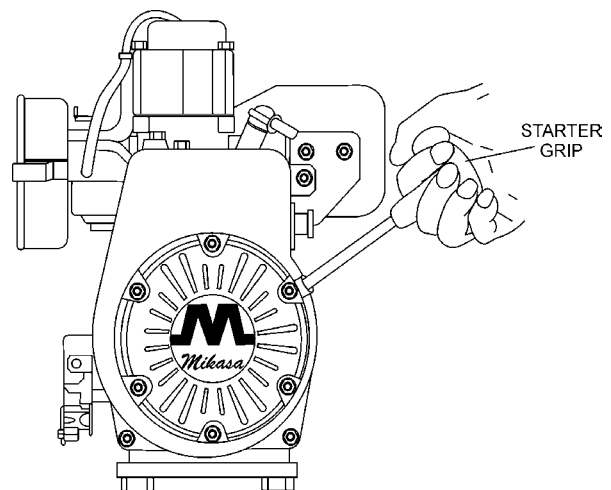

Figure 11. Recoil Starter
5. Grip the recoil starter (Figure 11) handle and pull until you feel a slight resistance. Then pull sharply and quickly. Return the recoil starter handle to the starter position before releasing.